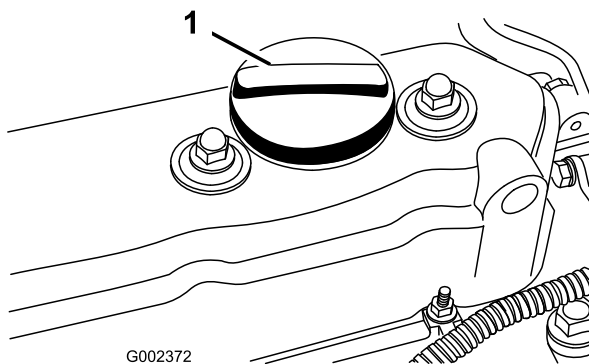

Figure 12
3. If the oil level is low, remove the filler cap (Figure 12) and add enough oil to raise the level to the Full mark on the dipstick.